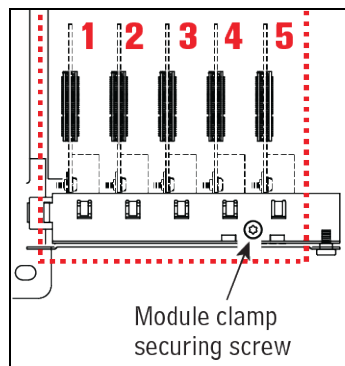

Figure A-9. Comm Module Clamp Securing Screw
2. On the communications bay, use a T-15 Torx driver to loosen the module clamp securing screw and remove the clamp (see Figure A-9).